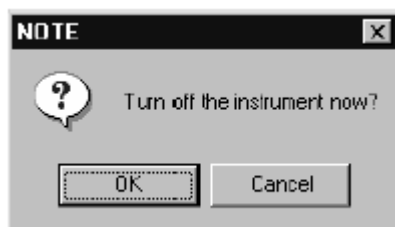

Figure 3-3
- In the blood cell analyzer window, press the right key of the mouse, pops up the menu. Select "Shutdown" in the menu, pops up shutdown window, as shown in Figure 3-3.